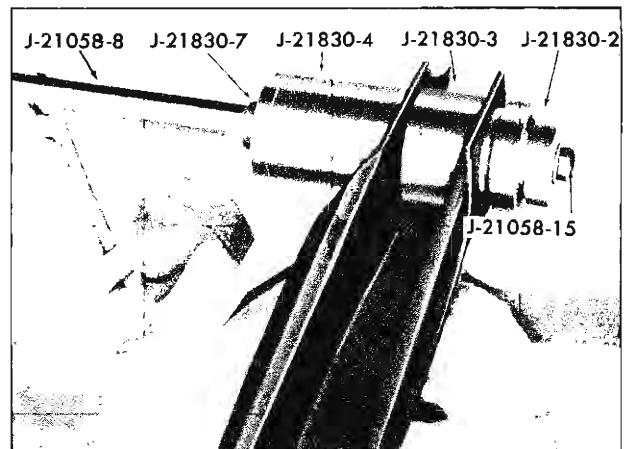

Fig. 26—Lower Control Arm Rear Bushing Installation
- e. Install J-21830-4, J-21830-7, thrust bearing and J-21058-8 on threaded end of J-21058-15 as shown in Figure 26. Tighten J-21058 to maintain proper relationship of parts; then position Spacer J-21830-3 over bushing and between sides of control arm.